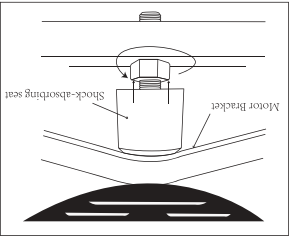

Figure 1
**IMPORTANT:** Before operating the generator the shock-absorbing seat (cushion) must be adjusted for proper clearance (figure 1). Loosen the lock nut and adjust the shock-absorbing seat so there is a 3 mm gap between the top of the seat and the bottom of the motor bracket (figure 2). Re-tighten the lock nut.